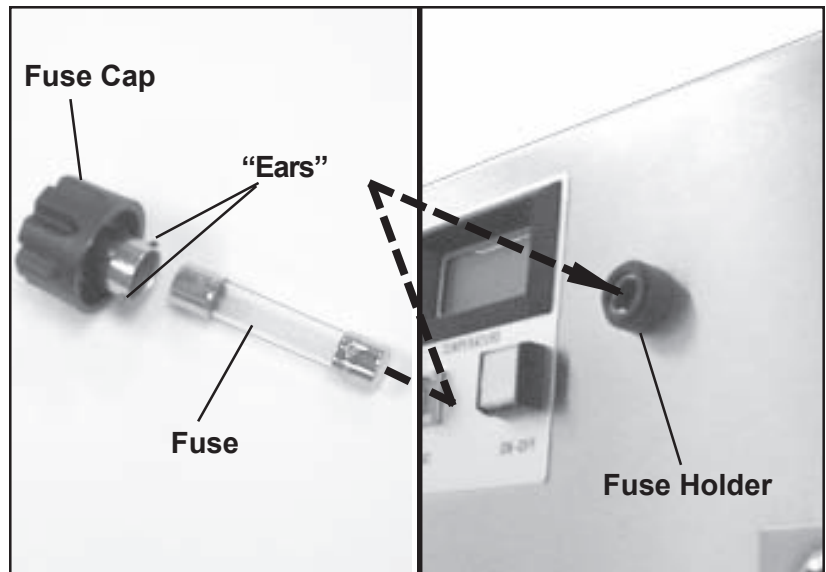

Figure 16. Fuse Assembly
2. Turn the fuse cap about 1/4 turn counterclockwise until it releases, then pull it out of the fuse holder (Figure 16).
1. Press either end of the new fuse into the fuse cap (Figure 16).